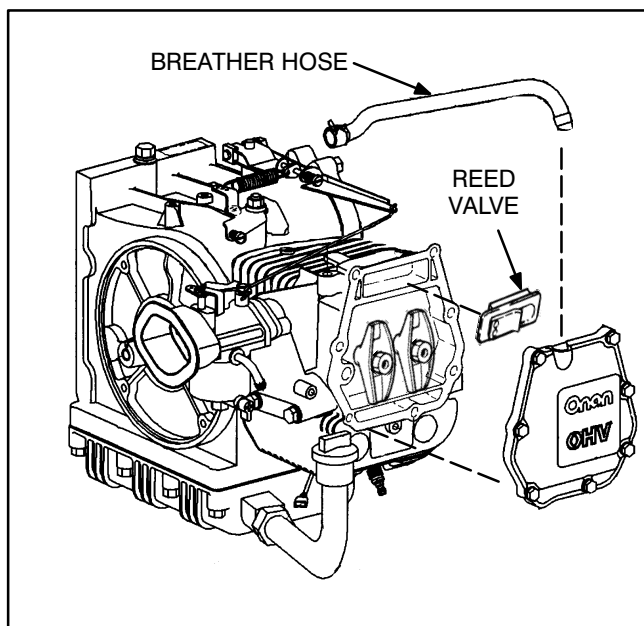

FIGURE 8-4. CRANKCASE BREATHER SYSTEM
1. Remove the breather tube from the valve cover (Figure 8-4).